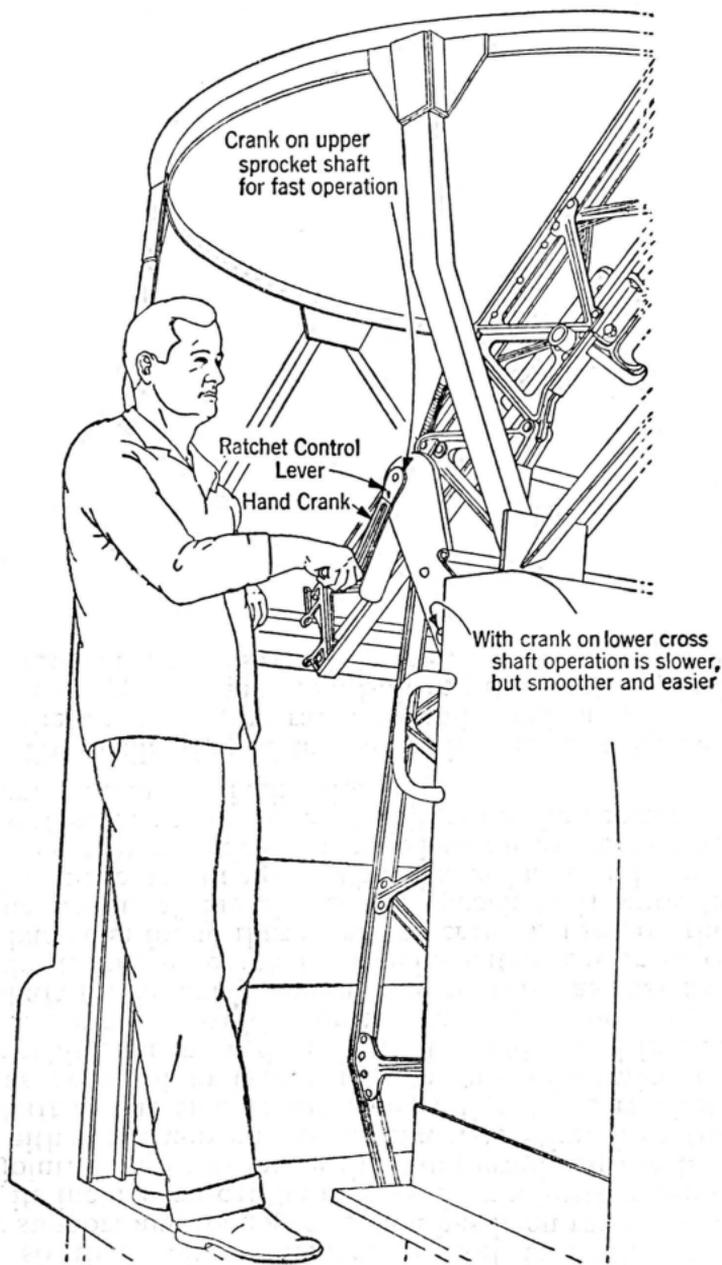

Fig. 7
6.02 After the ladder has been pushed to a point on the ring so that neither support bracket is resting upon the tubular support and its upper section has been raised, as covered in 6.01, its inclination can be increased by adjusting the opening in the joint. To do this, place the hand crank on the hexagonal end of either the upper sprocket shaft, see Fig. 7, or the lower cross-shaft at the side of the ladder, adjust the ratchet of the crank as required and turn in a counter-clockwise direction when working on the right side of the ladder and in the opposite direction when working on the left side. When used on the lower shaft the action is only about one-third as fast as on the upper shaft, but the crank is proportionately easier to operate. Also it has been found that when the crank is used on the lower shaft the action of the chains and sprockets is smoother and otherwise more satisfactory. The inclination can be increased so that the upper ladder is inclined at an angle of about 45° with the floor of the truck. Stop collars on the screws limit the maximum amount of inclination.
6.04 The hand crank can be most conveniently operated when the side of the ladder on which it is used faces directly toward the rear as shown in Fig. 7.